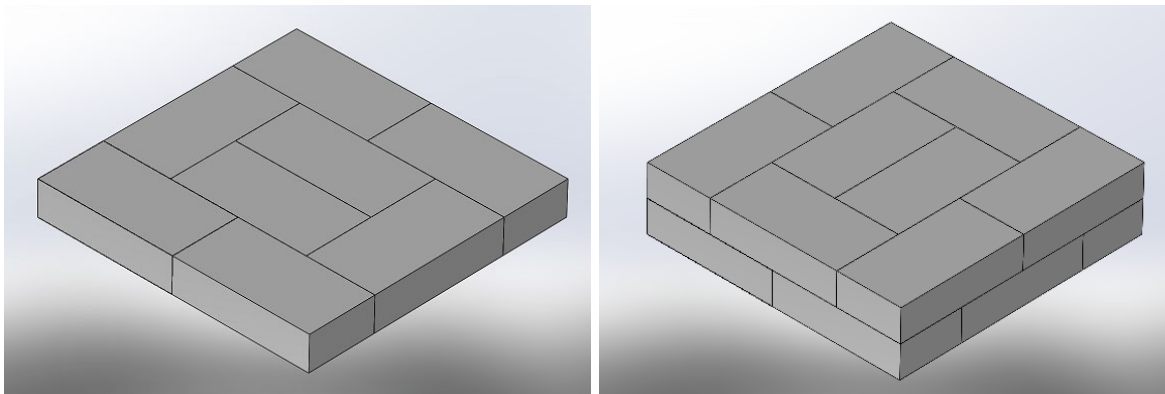

Fig. 1: First and second bottom layers of the lead shield.
1. The lead bricks in the two first (bottom) layers from bottom should be placed as shown in Fig. 1.